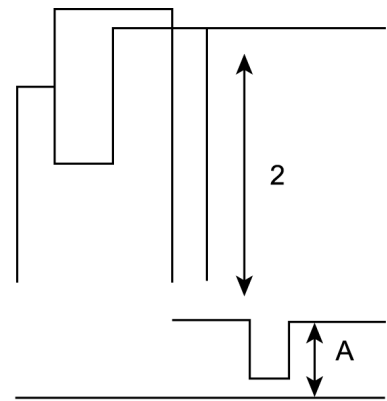

Fig. 5
3. Connect oscilloscope probe to TPL 1 (R OUT) with  $10k\Omega$  series resistor and confirm waveform as in Fig. 5 is (2)  $2.7 \pm 0.4V$ .